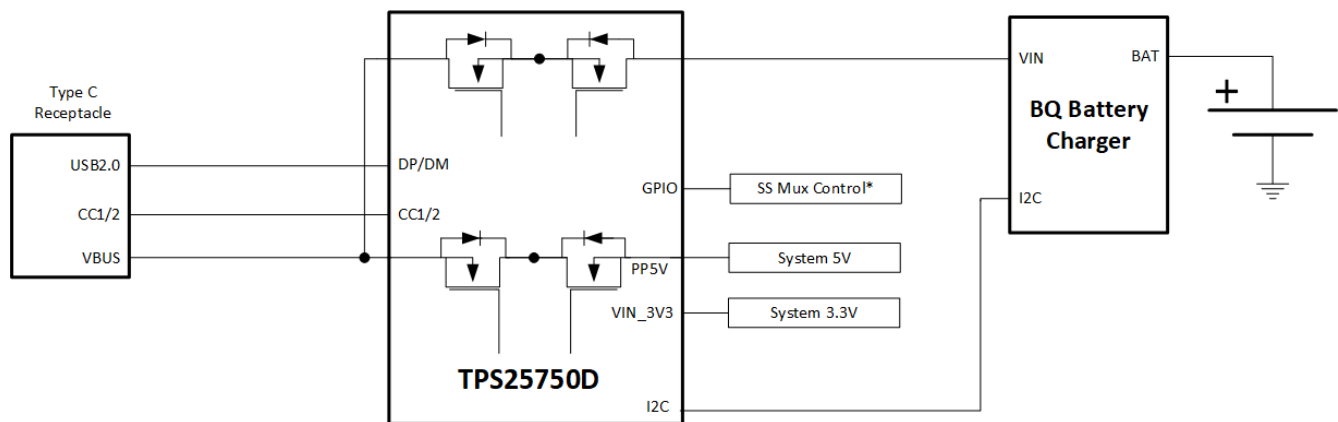

图 10-6. Power Only Battery Charger Application Block Diagram
图 10-6 shows the system block diagram for TPS25750D connected to a supported Battery Charger (BQ).